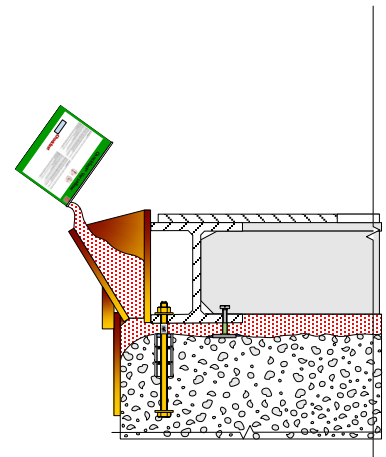

Figure 1
4.4.1.1.2. Head boxes or troughs are to be constructed as required to fit the needs of the application and to the degree necessary to place all the grout to its proper location within its prescribed working time. (Figure 1)